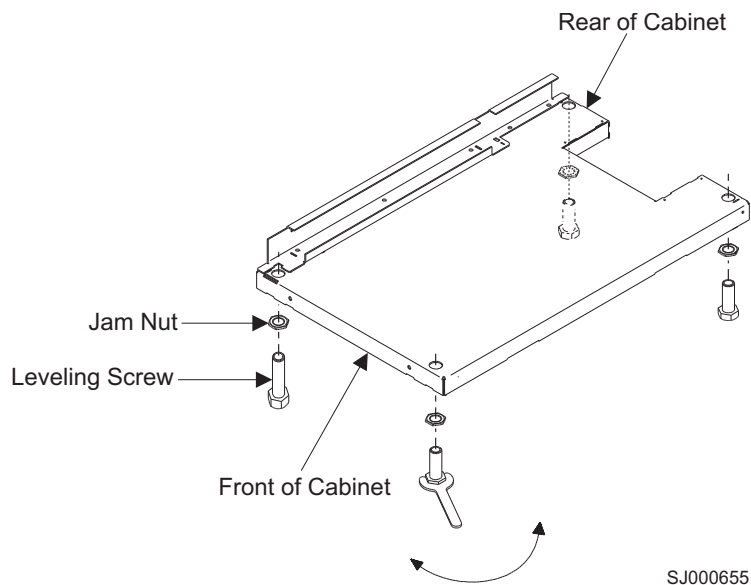

Figure 87. Leveling the rack
- Adjust the leveling screw downward, as needed, until the rack is level. See Figure 87. When the rack is level, tighten the jam nuts against the base by turning the jam nut clockwise, toward the bottom of the rack. Torque the four bolts to 54–67 nm (40–50 ft-lbs).